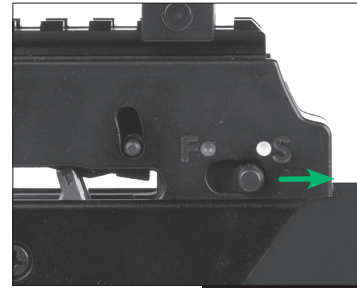

FIGURE 12
- 1b Slide the safety switch from the FIRE position to the ON SAFE position. (Fig. 12)
- 1d Carefully inspect the safety switch to ensure that it is fully in the ON SAFE position (Fig. 12). If the safety switch has not moved all the way back to the WHITE dot, it has not been placed ON SAFE and is still in FIRE position. Always visually inspect the safety switch to make certain that it is in the desired position.
**WARNING:** FOR ANY REASON THE SAFETY SWITCH DOES NOT FULLY MOVE TO THE ON SAFE POSITION (FIG. 12), SAFELY DE-COCK THE BOW THROUGH THE USE OF AN ARROW AS DESCRIBED IN SECTION 8.D. DO NOT USE THE CROSSBOW. CALL CUSTOMER SERVICE AT 1-866-726-1122 FOR AUTHORIZED REPAIR.